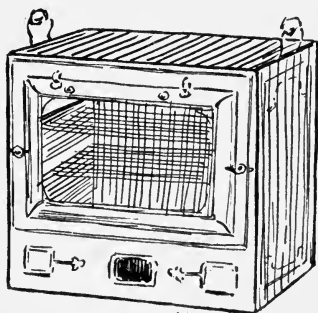

FIG. 19.—Double portable oven to be used with Junior gas stove, alcohol or kerosene stoves.
The choice of a gas stove is determined by the size of the family and the amount of income. A great number of very good stoves are on the market, and in such variety that every need can be met. For a home where only a minimum expense can be incurred \$7.00 will buy a three-burner Junior gas stove with oven. (See Figs. 19 and 20.) A family able to afford a more lavish kitchen can spend \$100 for the latest type of gas range with insulated oven. Most of the companies provide also for the needs of the renting class by offering gas ranges at a very moderate yearly rental.
a good three-burner kerosene stove with a two-burner portable oven (Fig. 19) is sufficient to meet the needs of a family of five or six people.
I. Three-burner Junior gas stove with portable oven (see Figs. 19 and 20), costing about \$7.00. This gives very efficient service, and, used in connection with the fireless cooker and steamer, will meet the needs of a large family. It should be placed on a cabinet base, covered with zinc, and having a place for the portable oven and steamer conveniently at hand.